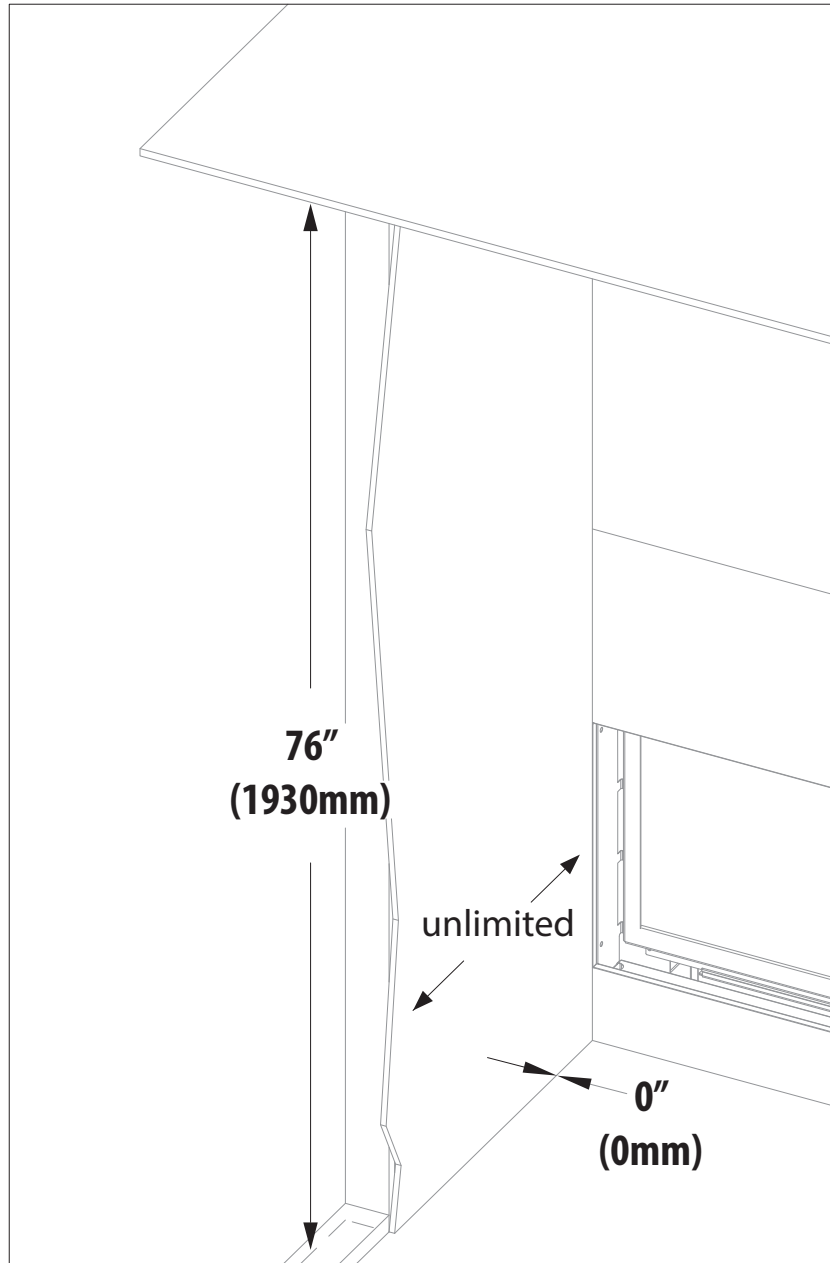

Figure 4.3, Standard Installation Adjacent Sidewall Clearances - No Surround
- **Mantel Leg:** Follow 'side combustible clearance' below. See Figure 4.3 on page 37. *If installing an optional surround*, refer to Measurement 'A', in Section 4.4 Finishing Guidelines for Optional Surrounds on page 42, for the space required from the optional surround sides to finishing material.
- **Side Combustible Clearance:** Unlimited combustible side trim can be flush to the side finishing edge. See Figure 4.3 on page 37. *If installing an optional surround*, refer to Measurement 'A', in Section 4.4 Finishing Guidelines for Optional Surrounds on page 42, for the space required from the optional surround sides to finishing material.
- The adjacent sidewall minimum clearance is 0" (0mm) from the side finishing edges of the fireplace. See Figure 4.3 on page 37. *If installing an optional surround*, refer to Measurement 'A', in Section 4.4 Finishing Guidelines for Optional Surrounds on page 42, for the space required from the optional surround sides to finishing material.